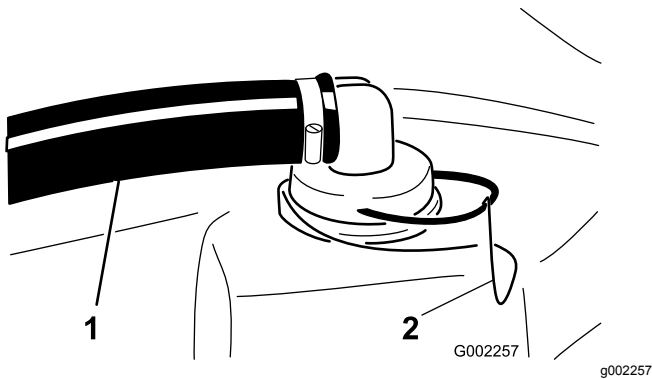

Figure 24
to the large hose and the strainer housing (Figure 24).
3. Remove the hose and hose fitting from the strainer housing (Figure 24).